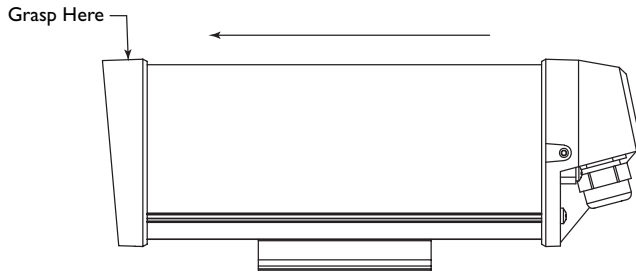

FIGURE 2 Removing the Cover
2. Grasp the housing's front cap and pull forward. Do not squeeze the cover itself. This will make it difficult to slide off the cover. See FIGURE 2.